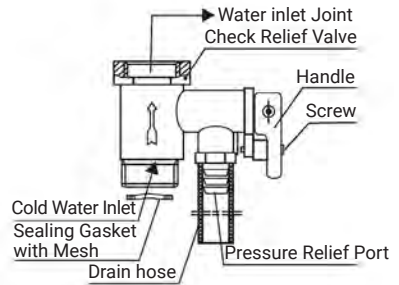

Figure 3
- ① The safety valve (factory original identification 0.8MPa) in the accessories shall be installed on the water inlet joint (as shown in Fig 3), and the raw material belt shall be wound to ensure sealing. The arrow direction shall be consistent with the water inlet flow direction of the electric water heater (as shown in Fig 3). The net sealing gasket shall be installed at the cold water inlet of the safety valve, and the drainage hose at the pressure relief outlet of the safety valve shall be installed to maintain a continuous downward inclination. It shall be installed in a frost free environment, and then extended to the ground leakage, kept connected with the atmosphere, and properly fixed to prevent scalding by discharging hot water or steam. The safety valve can prevent the tank pressure from exceeding the rated pressure by 0.1MPa. If the pressure in the tank is too high, the safety valve will automatically open and drain water from its pressure relief port to release the pressure.
- ② The water pipe connected to the electric water heater must be able to withstand pressure of 0.8MPa and temperature of more than 100°C, and the joint shall be wrapped with sealing tape to ensure sealing.
- ③ Where water is used, it shall be able to drain smoothly.
- ④ Under normal use, the handle of the safety valve (Fig. 3) should be opened regularly to remove calcium carbonate deposition. The method is: pull the discharge handle upward to the horizontal position (if the handle is equipped with screws, remove the screws with a screwdriver before doing this action), and confirm whether the safety valve is blocked (whether there is water discharge). If it is blocked, please contact the maintenance department.